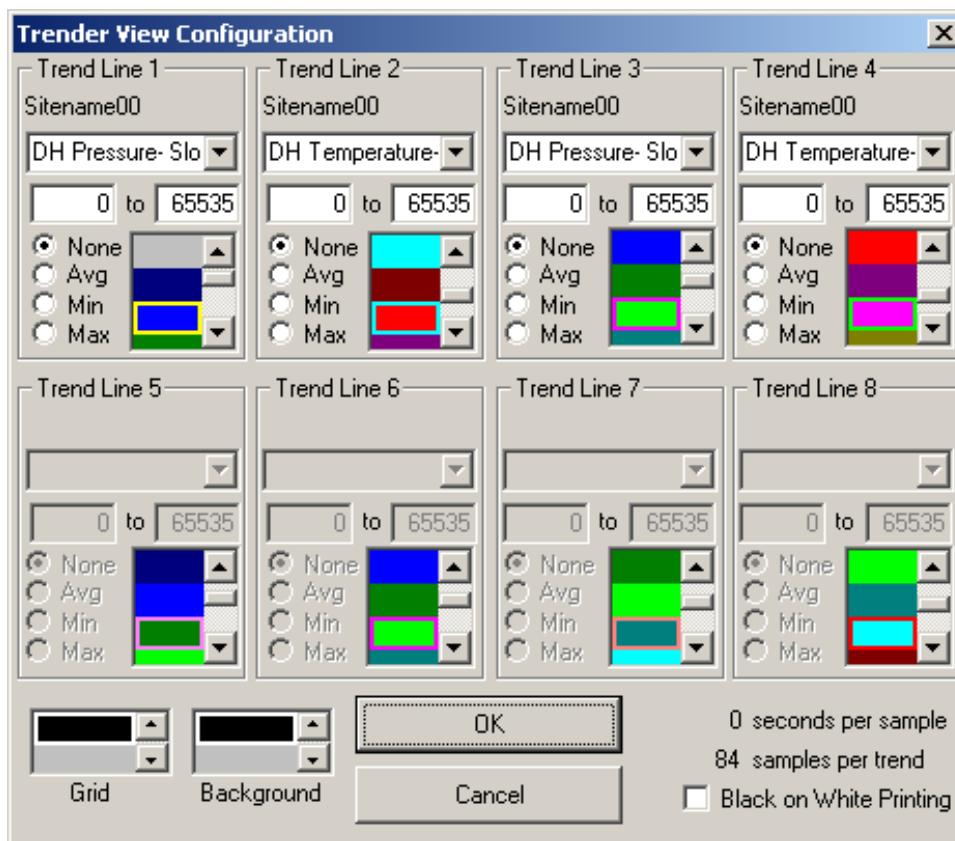

Figure 11-2: Trend View Configuration Window
11. If the trend configuration is done while the trend is running, the reduced options configuration window appears, as per Figure 11-2.